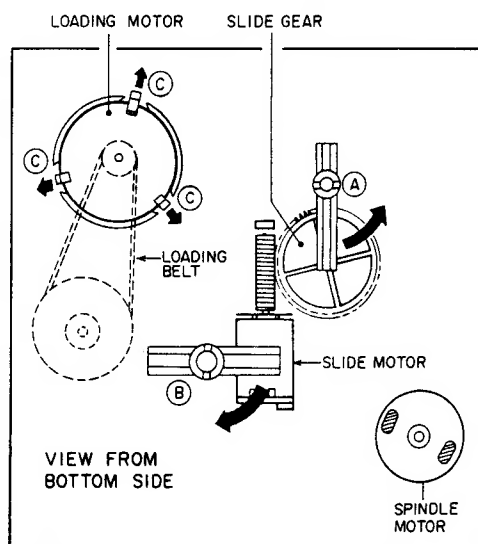

Fig. 3-4
- 1) Turn the ① GEAR HOLDER LEVER counter-clockwise (Fig. 3-4), then pull out the SLIDE GEAR.
- 1) Remove the LOADING BELT, then remove the LOADING MOTOR while releasing the ③ hooks (Fig. 3-4).
- 1) Turn the ② SLIDE MOTOR HOLD LEVER (Fig. 3-4) clockwise, then pull out the SLIDE MOTOR.